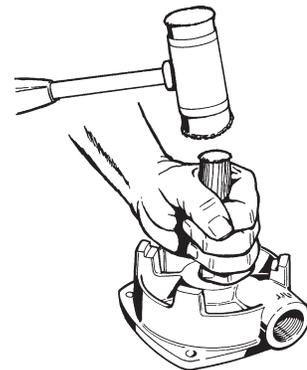

Figure 4-10
8. Remove the seat portion of the seal. Refer to Figure 4-10.